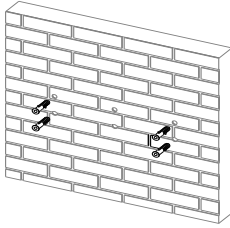
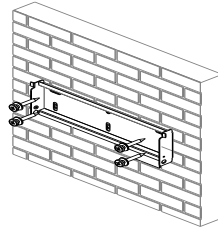

FIG.6-7 Install Expansion Anchors
FIG.6-8 Fix Wall-mounting Bracket
2) Knock expansion anchors into the corresponding four holes, and then fix the wall-mounting bracket to the wall with self-tapping screws, as per FIG. 6-7 & FIG. 6-8.